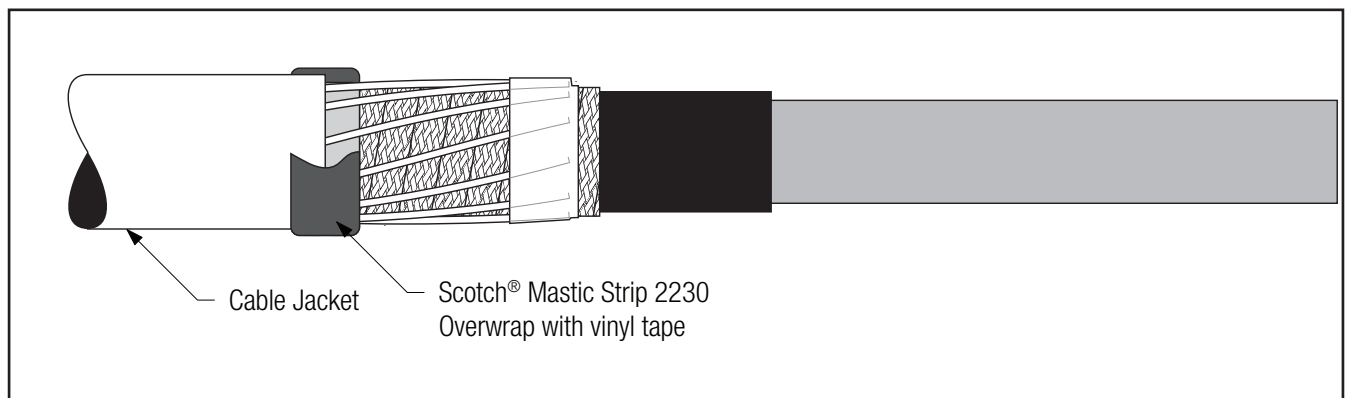

Figure 5
- 2.8 If using JCN or Flat Strap Cable:** Apply a Scotch® Mastic Strip 2230 over the previously applied mastic strip and overlapping onto the cable jacket. Knead mastic around neutral wires. Overwrap mastic with vinyl tape, taking care not to extend tape along neutral wires (*Figure 5*).